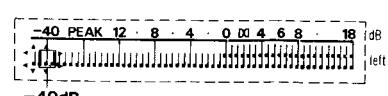

Fig. 25
- At this time, check that -40dB indicator is dimmed (intermediate brightness between full brightness and light-out: See fig. 25).